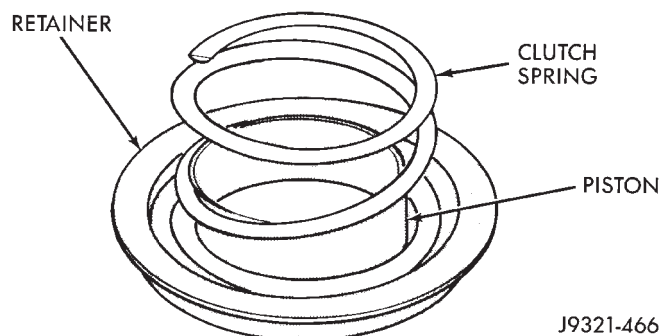

Fig. 152 Clutch Piston Spring Installation
(5) Position spring in clutch piston (Fig. 152).